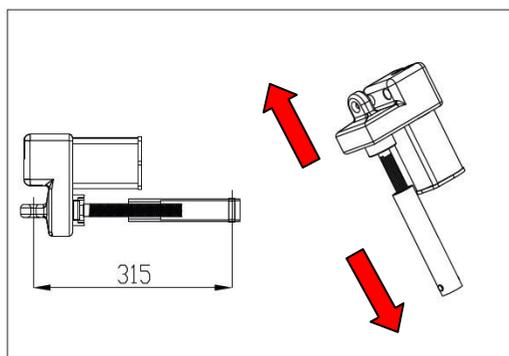

Figure 4.7.4
- 7) As shown in Figure 4.7.4, the incline motor should be adjusted to a minimum stroke of 315 mm.